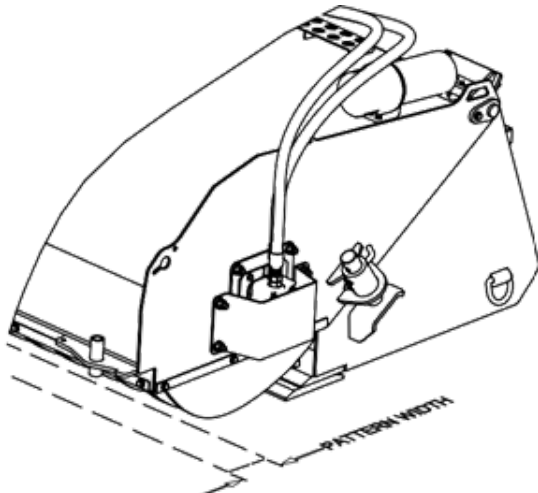

Figure 5
4. Keep the broom in this position for ten (10) seconds. Do not move the host machine.
6. Measure the pattern width left by the broom wafers. The pattern left behind should be two – four inches (2 – 4") wide. See Figure 5.